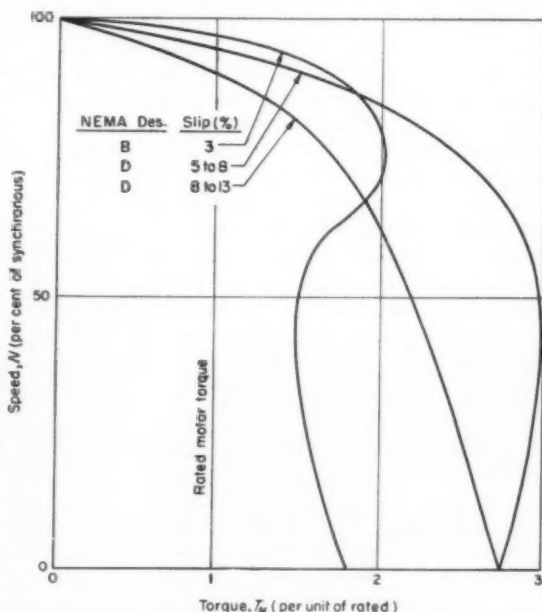

Fig. 1 — Typical speed-torque characteristics for NEMA Design B and D motors. Slip values given are at rated torque
1. Rotate S to the picture plane around A , Fig. 1.
Motor Slip: Thus some of the factors which influence the selection of both motor and flywheel become apparent. If the amount of the flywheel inertia and the slip of the motor are known, the amount of energy which will be released from the flywheel can be determined. In effect, slip is a measure of the stiffness of the system. The slip of the motor, of course, determines how much the flywheel will be permitted to slow down and also how much torque the motor will develop. A motor with a small flywheel will slow down more than a motor with a large flywheel to give up the same amount of energy. The curves in Fig. 1 show that a high-slip motor will slow down more than a general-purpose motor under the same conditions. This means that for a given speed drop the high-slip motor is in effect "lazier" than the general-purpose motor, because the high-slip motor permits the flywheel to do most of the work. A general-purpose motor with low slip will not "yield" as much under load and will try to do most of the work by itself.
However, the high-slip motor has features which make it desirable for a great many applications of this nature. In addition to the ability of the high-slip motor to "yield" with a sudden application of load, this motor has a second advantage of not having a clearly defined breakdown point on its speed-torque curve, Fig. 1. Thus, breakdown torque is not a problem.
characteristic curves for both of these motors are shown in Fig. 1. These curves permit refinement in matching the motor and the load characteristics.